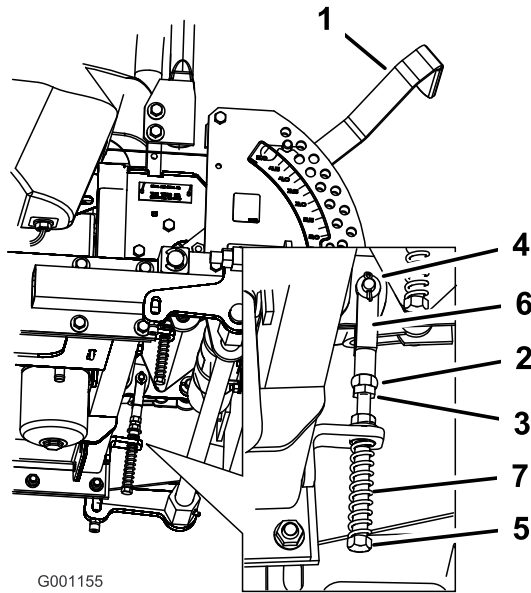

Figure 67
8. If adjustment is needed, loosen the nut and jam nut against the yoke (Figure 67).
- Apply slight rearward pressure on the motion-control lever, turn the head of the adjustment bolt in the appropriate direction until the control lever is centered in the NEUTRAL-LOCK position (Figure 67).
- Tighten the nut and jam nut (Figure 67).